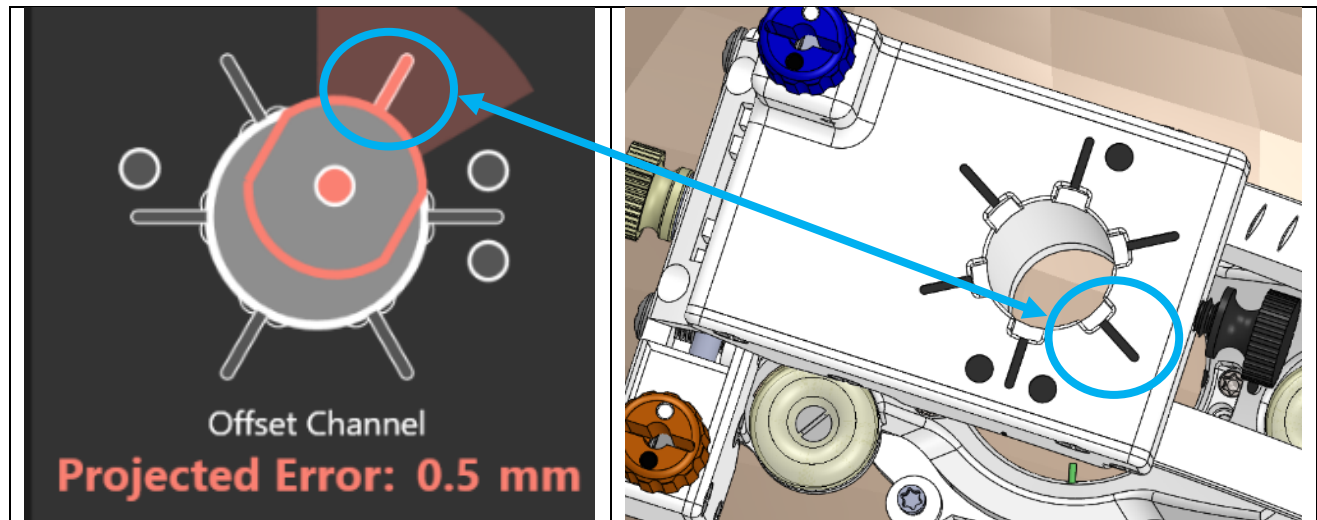

Figure 28: Offset channel selected in the software (Left), and the corresponding position on the SMARTFrame Array tower (Right)
4. If using the OFFSET Insertion Guide, line up the side tab with the channel position line on the tower. The orientation dots on the tower match those shown in the Software. **See Figure 28.**